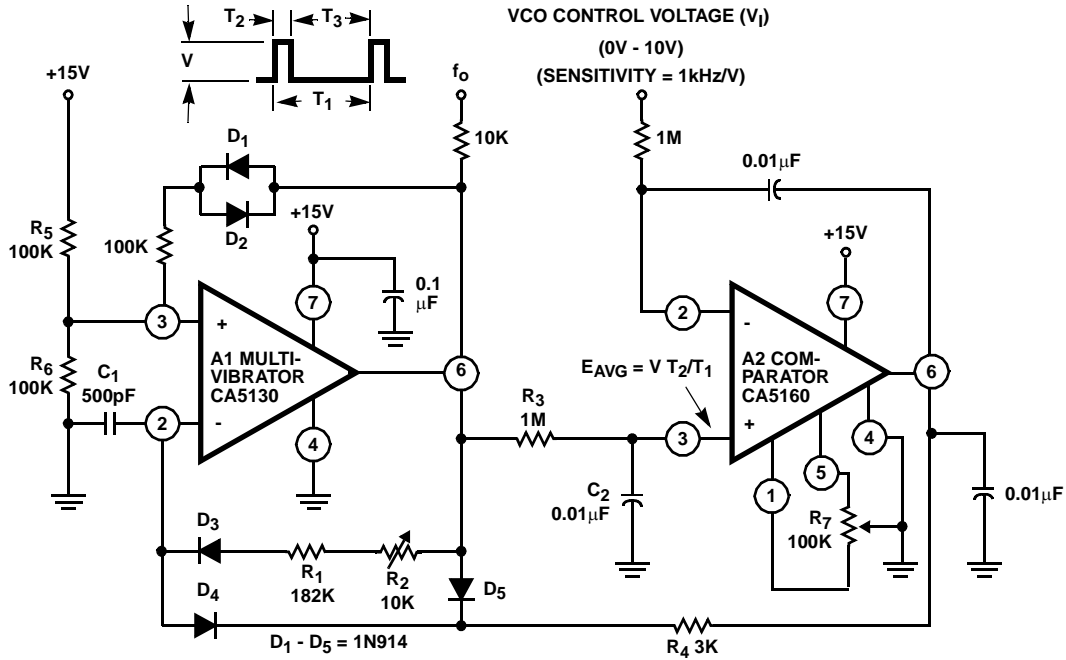

FIGURE 10. VOLTAGE CONTROLLED OSCILLATOR
The circuit diagram of a precision voltage-controlled oscillator is shown in Figure 10. The oscillator operates with a tracking error on the order of 0.02% and a temperature coefficient of 0.01%/°C. A multivibrator (A_1) generates pulses of constant amplitude (V) and width (T_2). Since the output (Terminal 6) of A_1 (a CA5130) can swing within about 10mV of either supply-rail, the output pulse amplitude (V) is essentially equal to $V+$. The average output voltage ($E_{AVG} = V T_2/T_1$) is applied to the non-inverting input terminal of comparator A_2 (a CA5160) via an integrating network R_3, C_2 . Comparator A_2 operates to establish circuit conditions such that $E_{AVG} = V_1$. This circuit condition is accomplished by feeding an output signal from Terminal 6 of A_2 through R_4, D_4 to the inverting terminal (Terminal 2) of A_1 , thereby adjusting the multivibrator interval, T_3 .